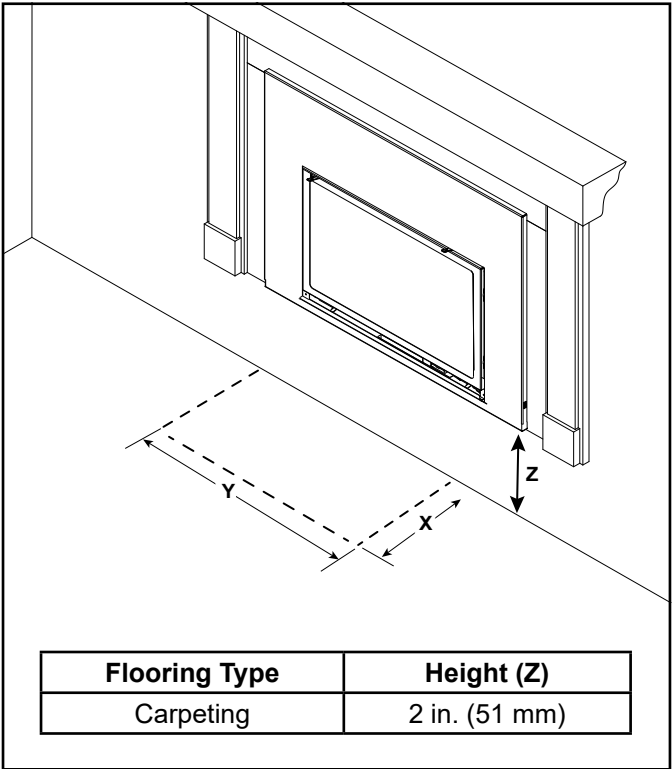

Figure 3.16 Hearth - Minimum Height for Carpeting Flooring
- Carpeting is acceptable in front of the appliance when the appliance is raised off the floor 2 inches (51 mm) or more. See Figure 3.16.